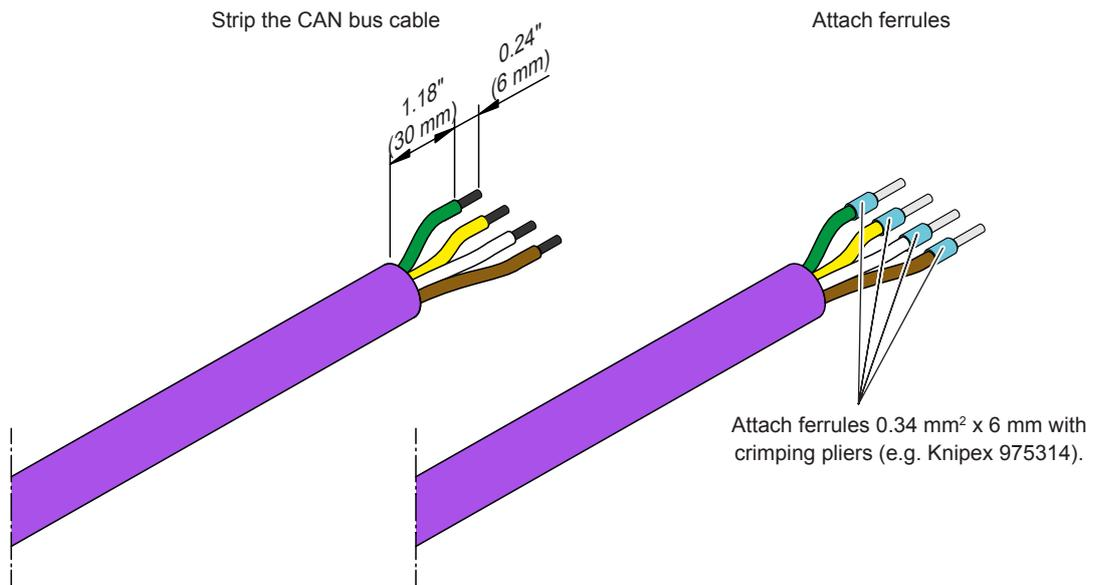

Fig. 43: Preparing cable(s)
- Prepare the CAN bus cable(s) to be connected to the ConBox according to Fig. 43.